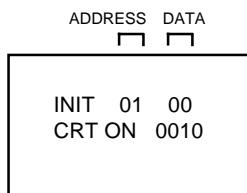

Fig. 1
2. Press both VOL. DOWN button on the set and Channel button (6) on the remote control for more than 2 seconds. ADDRESS and DATA should appear as FIG 1.